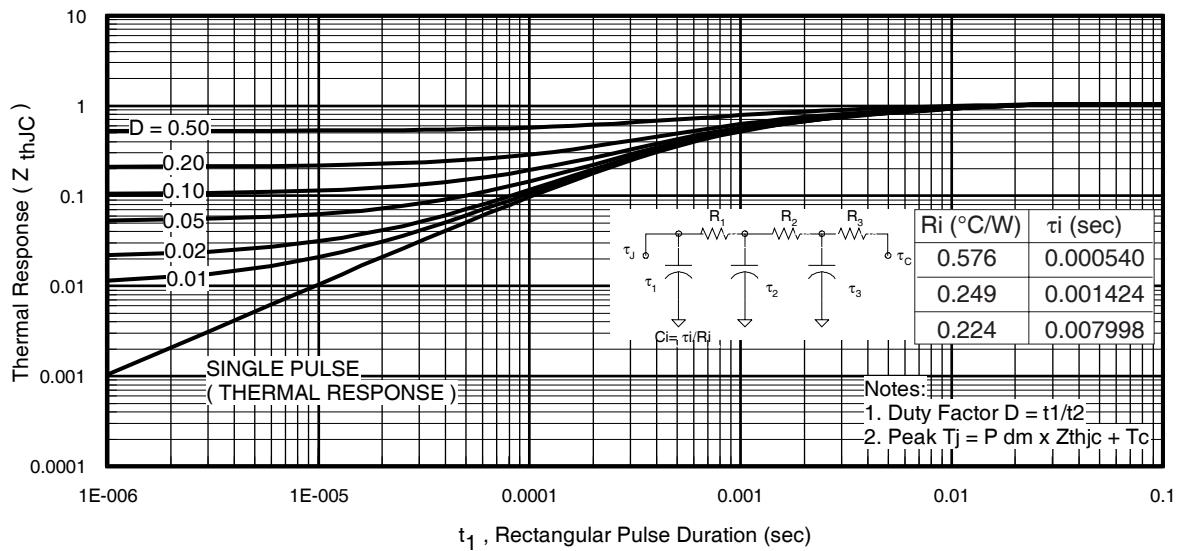
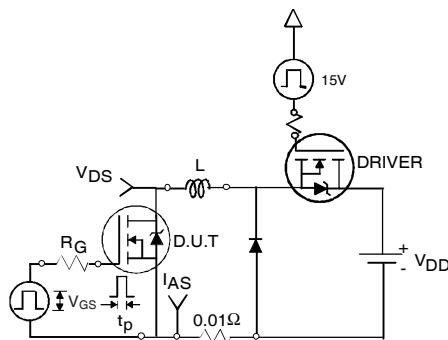

Fig 11. Maximum Effective Transient Thermal Impedance, Junction-to-Case
Fig 12a. Unclamped Inductive Test Circuit
3. Equation below based on circuit and waveforms shown in Figures 12a, 12b.
$Z_{thJC}(D, t_{av})$ = Transient thermal resistance, see figure 11)
- ① Repetitive rating; pulse width limited by max. junction temperature. (See fig. 11).
- ④ $C_{oss\ eff}$ is a fixed capacitance that gives the same charging time as C_{oss} while V_{DS} is rising from 0 to 80% V_{DSS} .
- ② Limited by T_{Jmax} , starting $T_J = 25^\circ C$, $L = 0.28mH$ ⑤ Limited by T_{Jmax} , see Fig.12a, 12b, 15, 16 for typical repetitive $R_G = 25\Omega$, $I_{AS} = 33A$, $V_{GS} = 10V$. Part not avalanche performance.
- ③ Pulse width $\leq 1.0ms$; duty cycle $\leq 2\%$. ⑥ This value determined from sample failure population. 100% tested to this value in production.
- ⑦ When mounted on 1" square PCB (FR-4 or G-10 Material). For recommended footprint and soldering techniques refer to application note #AN-994.